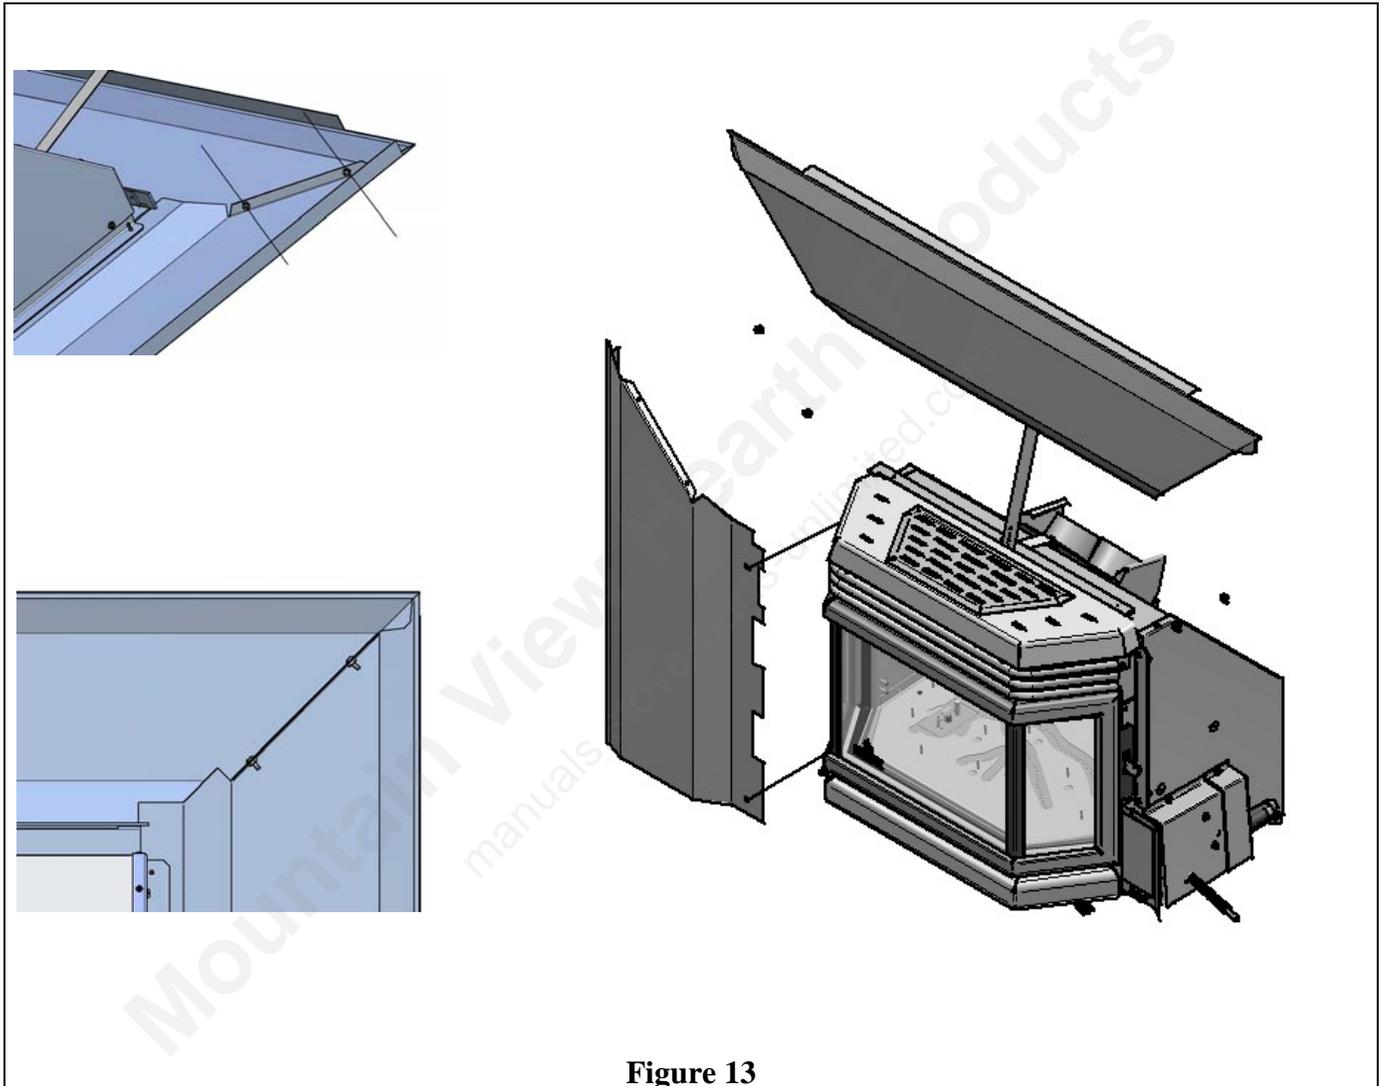

Figure 13
2. Using two(2) screws (per panel), install the side panels onto the frame in a way where the side panels overlaps the upper panel and the bent strip of the side panels slides under the upper panel(Figure 13).
3. Secure left and right end of the upper panel to the side panels using one (2) screws each side (Figure 13).
6. ***The faceplate frame is attached to the unit with four (4) screws.(Figure 13).